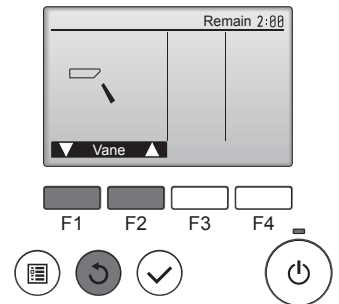

Fig. 7-7
- ① Check the auto vane with the **[F1]** **[F2]** buttons. (Fig. 7-7)
- ② Press the button to return to "Test run operation".
- ③ Press the button.